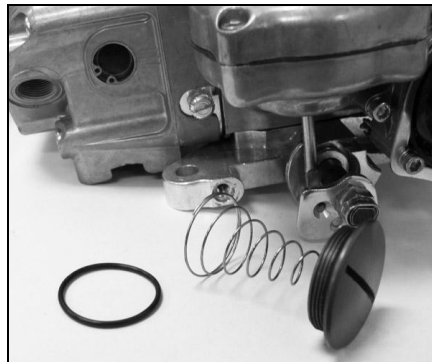

Figure 25
2. Please note the O-ring that seals the disk to the pod top (Fig. 25).